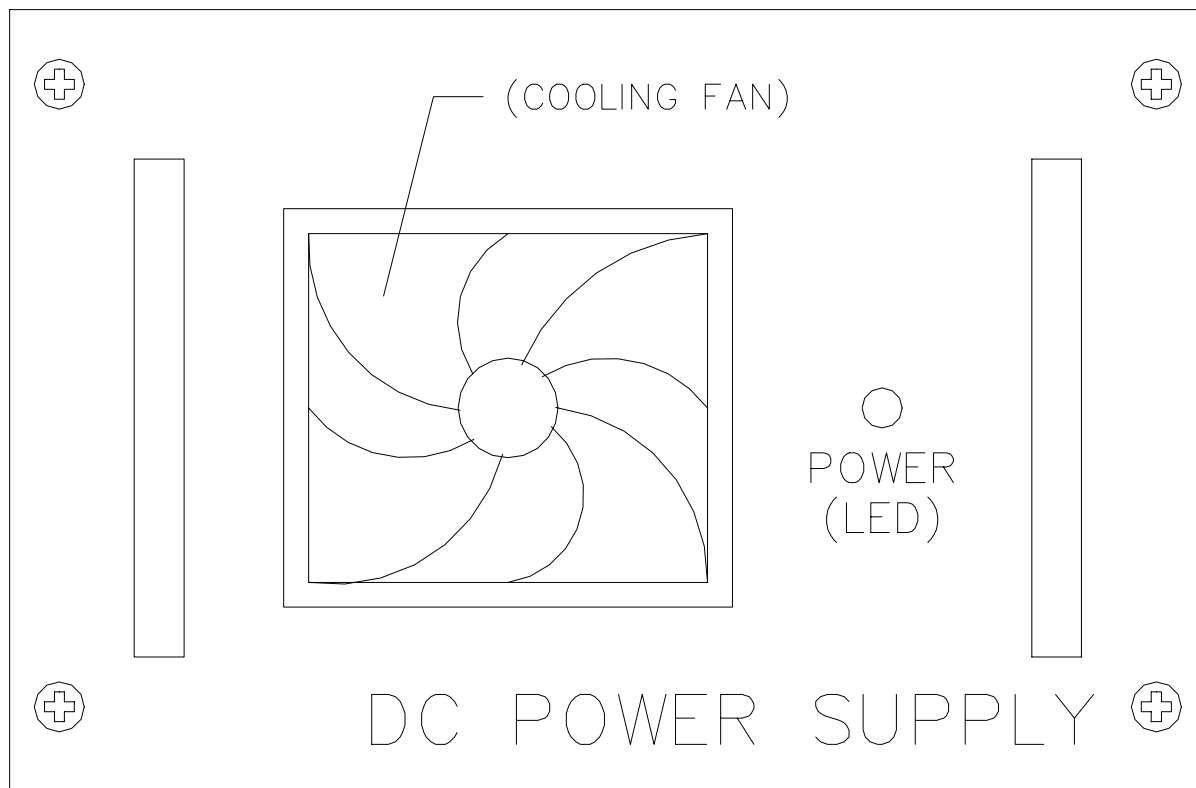

Figure 6-21 PA Power Supply Front Panel
Four identical Power Amplifier (PA) Power Supplies (numbered 1 through 4) are located in four drawers at the base of the PA Cabinet as illustrated in Figure 6-1 and Figure 6-2. The front panel of a PA Power Supply is shown in Figure 6-21.